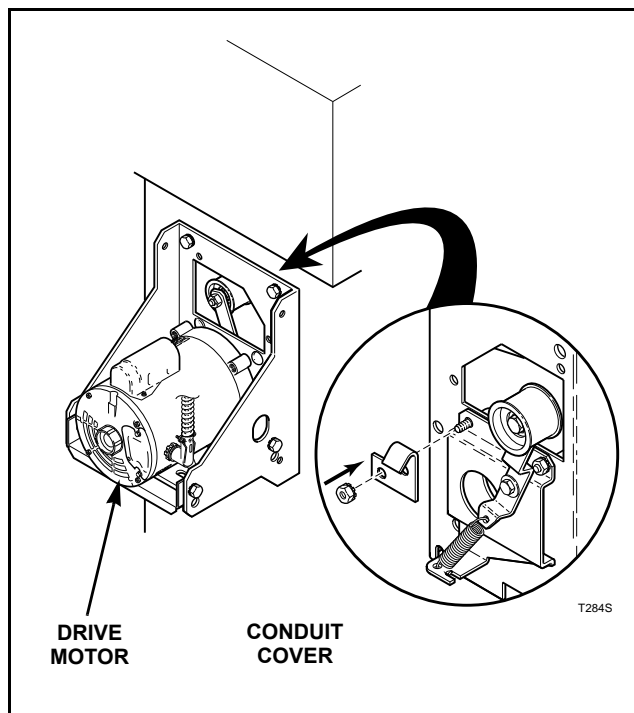

Figure 42
Refer to *Figure 42*.
- e. Remove four nuts holding motor and motor mount to back of cabinet. Refer to *Figure 42*.